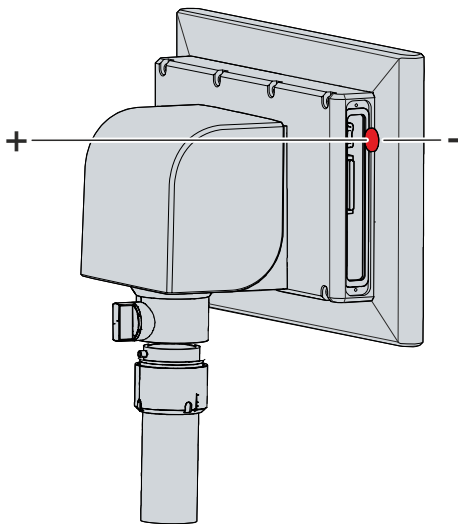

Fig. 43: Replacing the battery
2. Insert the new battery into the PC by hand. Make sure that the polarity is correct as shown (see Fig. 43).